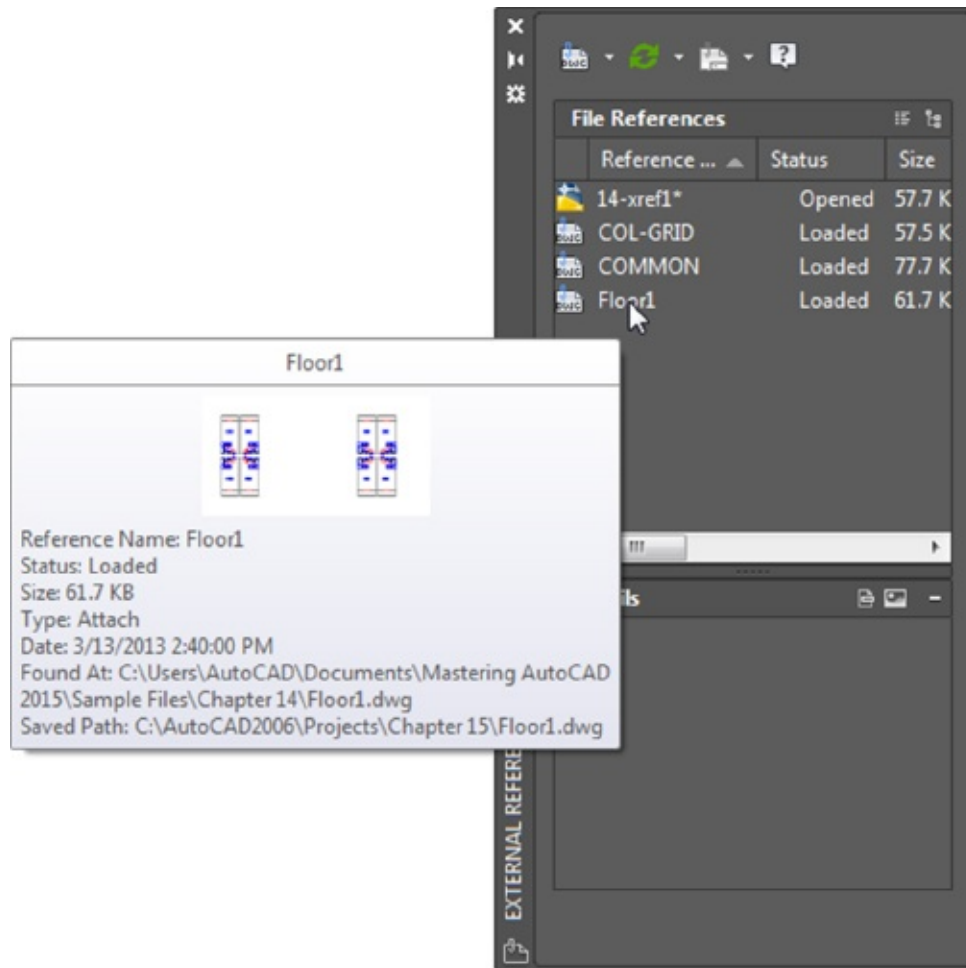

FIGURE 14.6 Highlight Floor1 in the list of Xrefs.
3. In the External References palette, select Floor1 in the list of Xrefs. Notice that as you hover over the Floor1 name, a description of the file appears with a thumbnail view (see Figure 14.6). This can help you quickly identify Xref files in the list. If you click an Xref name, the Xref will be highlighted in the drawing.